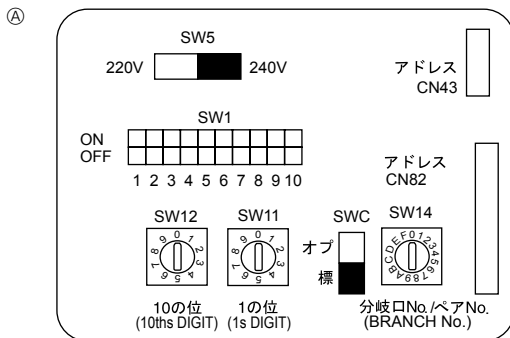

Fig. 4-4
① MA Remote controller
② M-NET Remote controller
- ④ Terminal block for indoor transmission cable
- ⑤ Terminal block for outdoor transmission cable
- ⑥ Remote controller
4.5. Setting addresses (Fig. 4-4)
④ Address board
4.6. Sensing room temperature with the built-in sensor in a remote controller (Fig. 4-4)